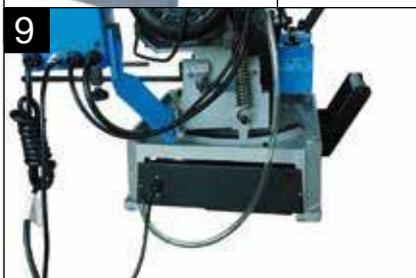

Fig. 9 + 10
- Pull out the coolant unit halfway, as shown in Figure 9.